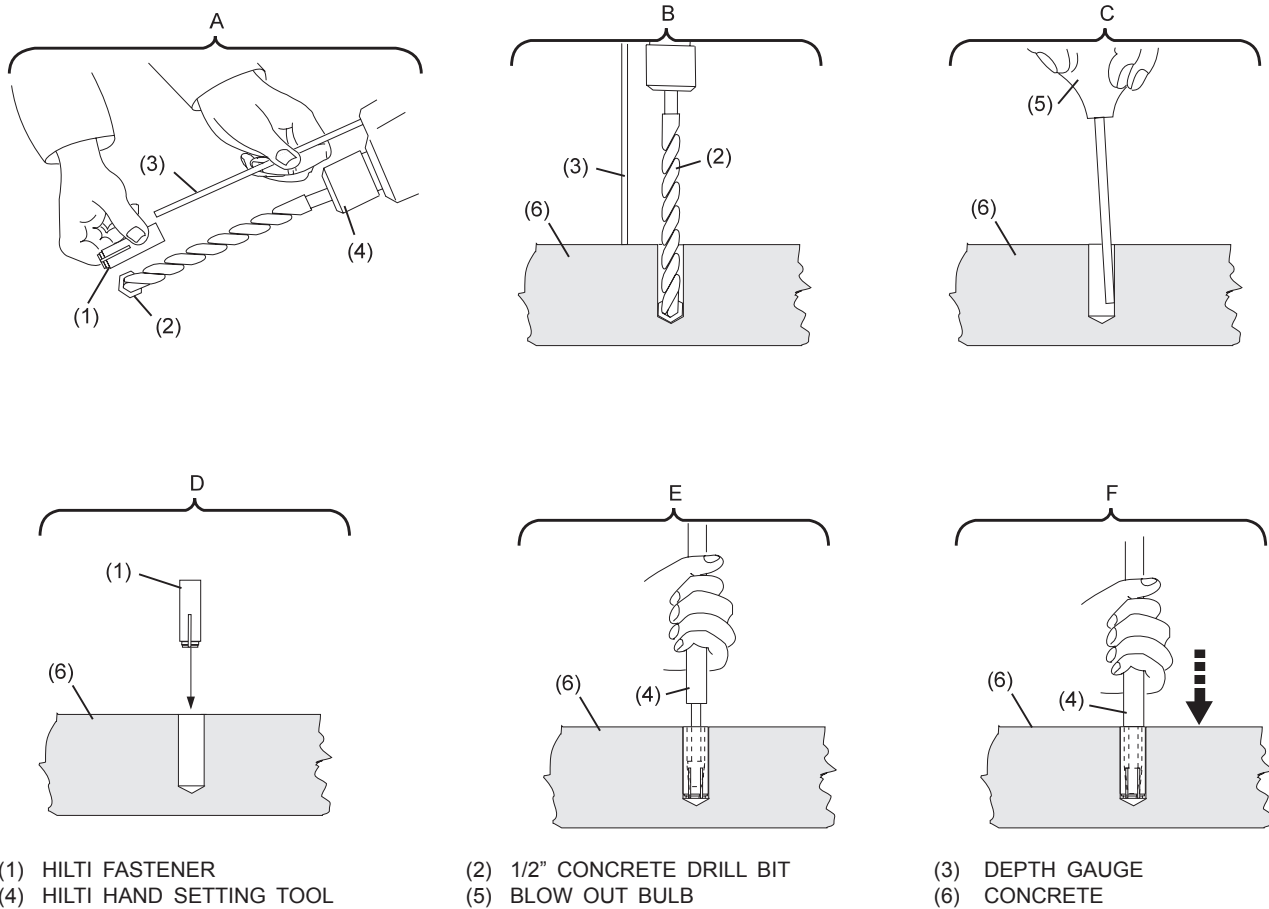

Figure 2
3. Adjust depth gauge so anchor will be flush with the base material surface. Refer to Figure 2-A.
4. Hammer drill the hole. *Figure 2-B.*
5. Clean hole with blowout bulb. *Figure 2-C.*
6. Place fastener in hole with threaded end up until flush with concrete. *Figure 2-D.*
7. Install anchor using Hilti hand setting tool, package number 57-861416-000, which was included in your shipment. Setting tool to be driven into anchor until setting tool shoulder meets top of anchor. *Figures 2-E and 2-F.*